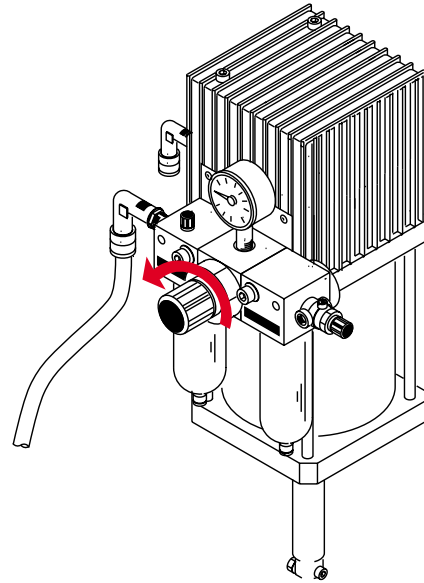

Fig.26
4) Rotate the pressure regulator ring nut in an anticlockwise direction (air spray gun) until the pressure reaches “0” (fig.26).